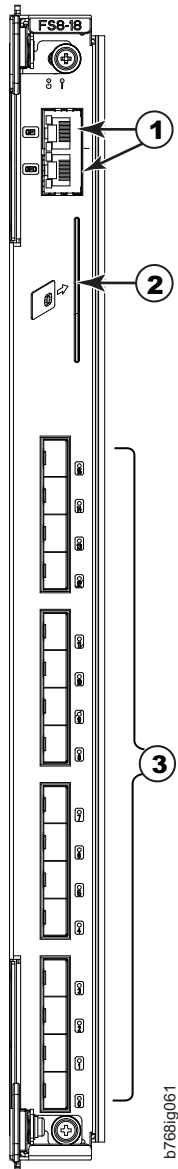

Figure 62. FS8-18 encryption blade
- Figure 62 on page 192 shows an FS8-18 encryption blade